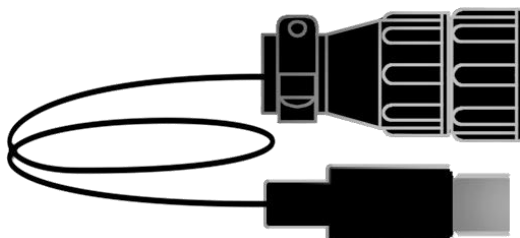

Figure 5: AIS to USB type C cable
1. Connect the AIS to USB Cable (Figure 5) with the Pilot port on the vessel and any of the two available USB Type C Ports of the Pilot Plug (Figure 1.3 or 1.5).